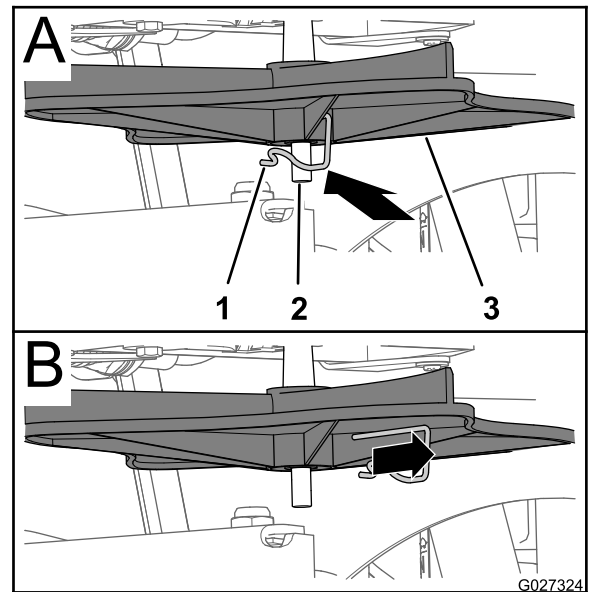
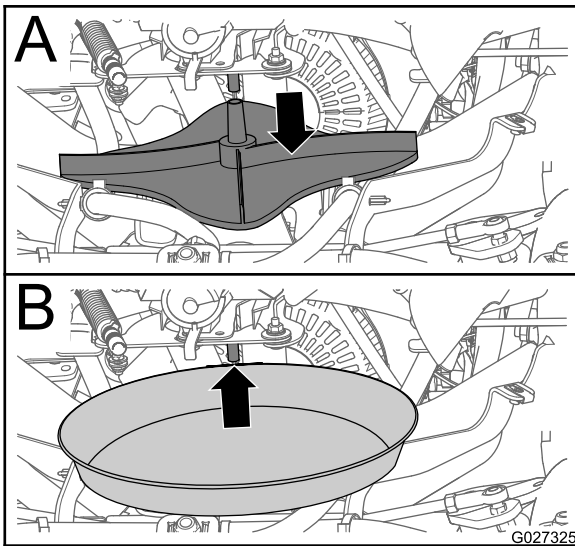

Figure 27
Figure 28
4. Remove the drive pin that secure the impeller to the shaft of the impeller motor and remove the impeller from the shaft (Figure 27 and Figure 28).
5. Place a shallow pan under the shaft of the impeller motor (Figure 28).